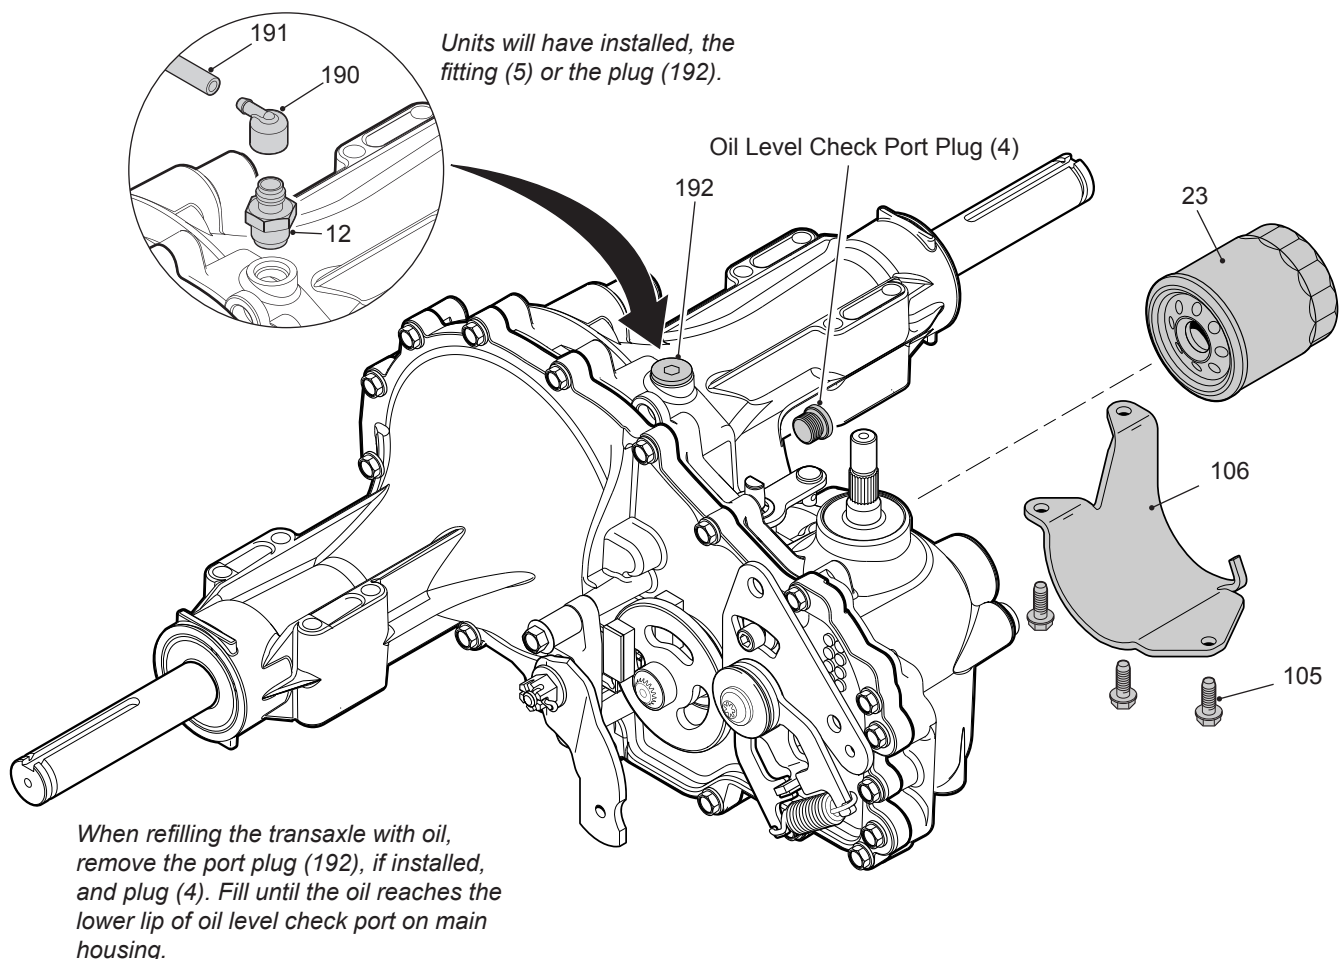

Figure 3, Filter and Guard
Refer to Figure 3
1. Remove the three 1/4" filter guard screws and filter guard. Clean any loose debris from around the perimeter of the filter. See figure 3.
1. Remove the three 1/4" filter guard. Clean any loose debris from around the perimeter of the filter. See figure 3.